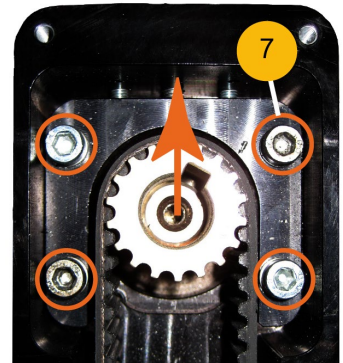
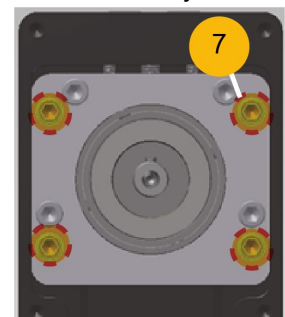

Figure 28: Screws for fixation of drive unit ETH032...ETH080
Figure 29: Screws for fixation of drive unit ETH100 & ETH125
- ◆ The screws (please refer to Figure 28 Pos.7) must be screwed in without torque so that the drive unit can be lifted upwards
- ◆ Tighten 4 screws (please refer to Figure 28 Pos.7) with the given tightening torque (please refer to Table 3).
ETH032...ETH080: see Figure 28, Pos 7
ETH100 & ETH125; see Figure 29, Pos7 are provided with a medium strength screw lock (e.g. type Wiko 02K43) and are fully screwed in. Only screw in screws without torque: Recommendation: Screw in the screws completely and then loosen again about half a turn.
- ◆ The screws (please refer to Figure 28 Pos.7 ETH100&125; see Figure 29, Pos7) must be screwed in without torque, so that the drive unit can be lifted upwards.
- ◆ ETH100 & ETH125 Motor/gearing installation: Now the motor/ gearbox (see page 29) must be installed. In this case, the screws, Figure 29, Pos7 still have to be loosened easily. After the motor/gear assembly and before the gradual final tightening of the clamping bushing (see Figure 26Pos 20; Figure 27Pos 20a) the four screws, see Figure 29 Pos7, must be fully tightened (screw tightening torques see Table 3).
- ◆ ETH032...ETH080: Completely tighten the four screws (please refer to Figure 28 Pos.7. screw tightening torques and Table 3.)